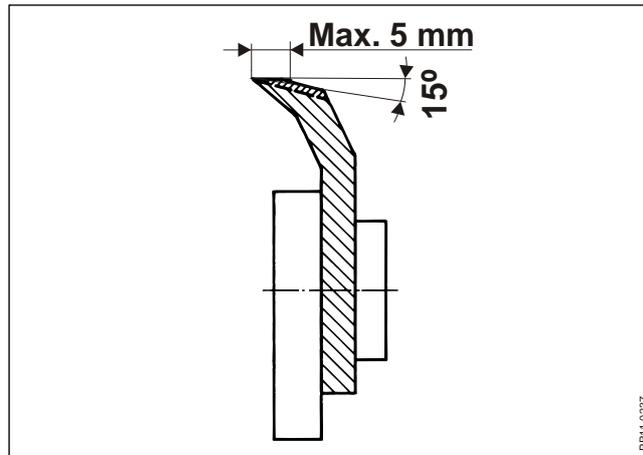

Fig. 4-30
**Fig. 4-30** To avoid unnecessary power consumption and excessive wear of the grindstone when working with the harvester, it is necessary to make a rough grinding or adjustment of the blades when the cutting edge is 5 mm wide or more. Grind the rear edge to an angle of approx. 15°.